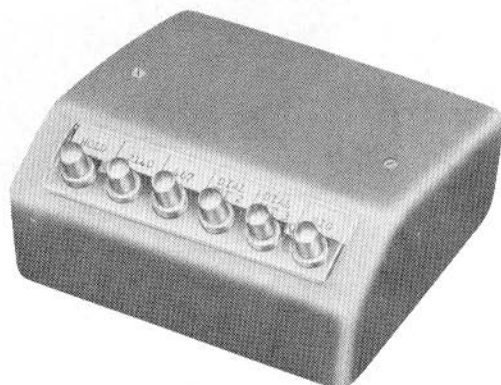

Fig. 1—6040-Type Key
**1.01** This section contains information for 6040-, 6041-, 6050-, and 6051-type keys (Fig. 1, 2, and 3).